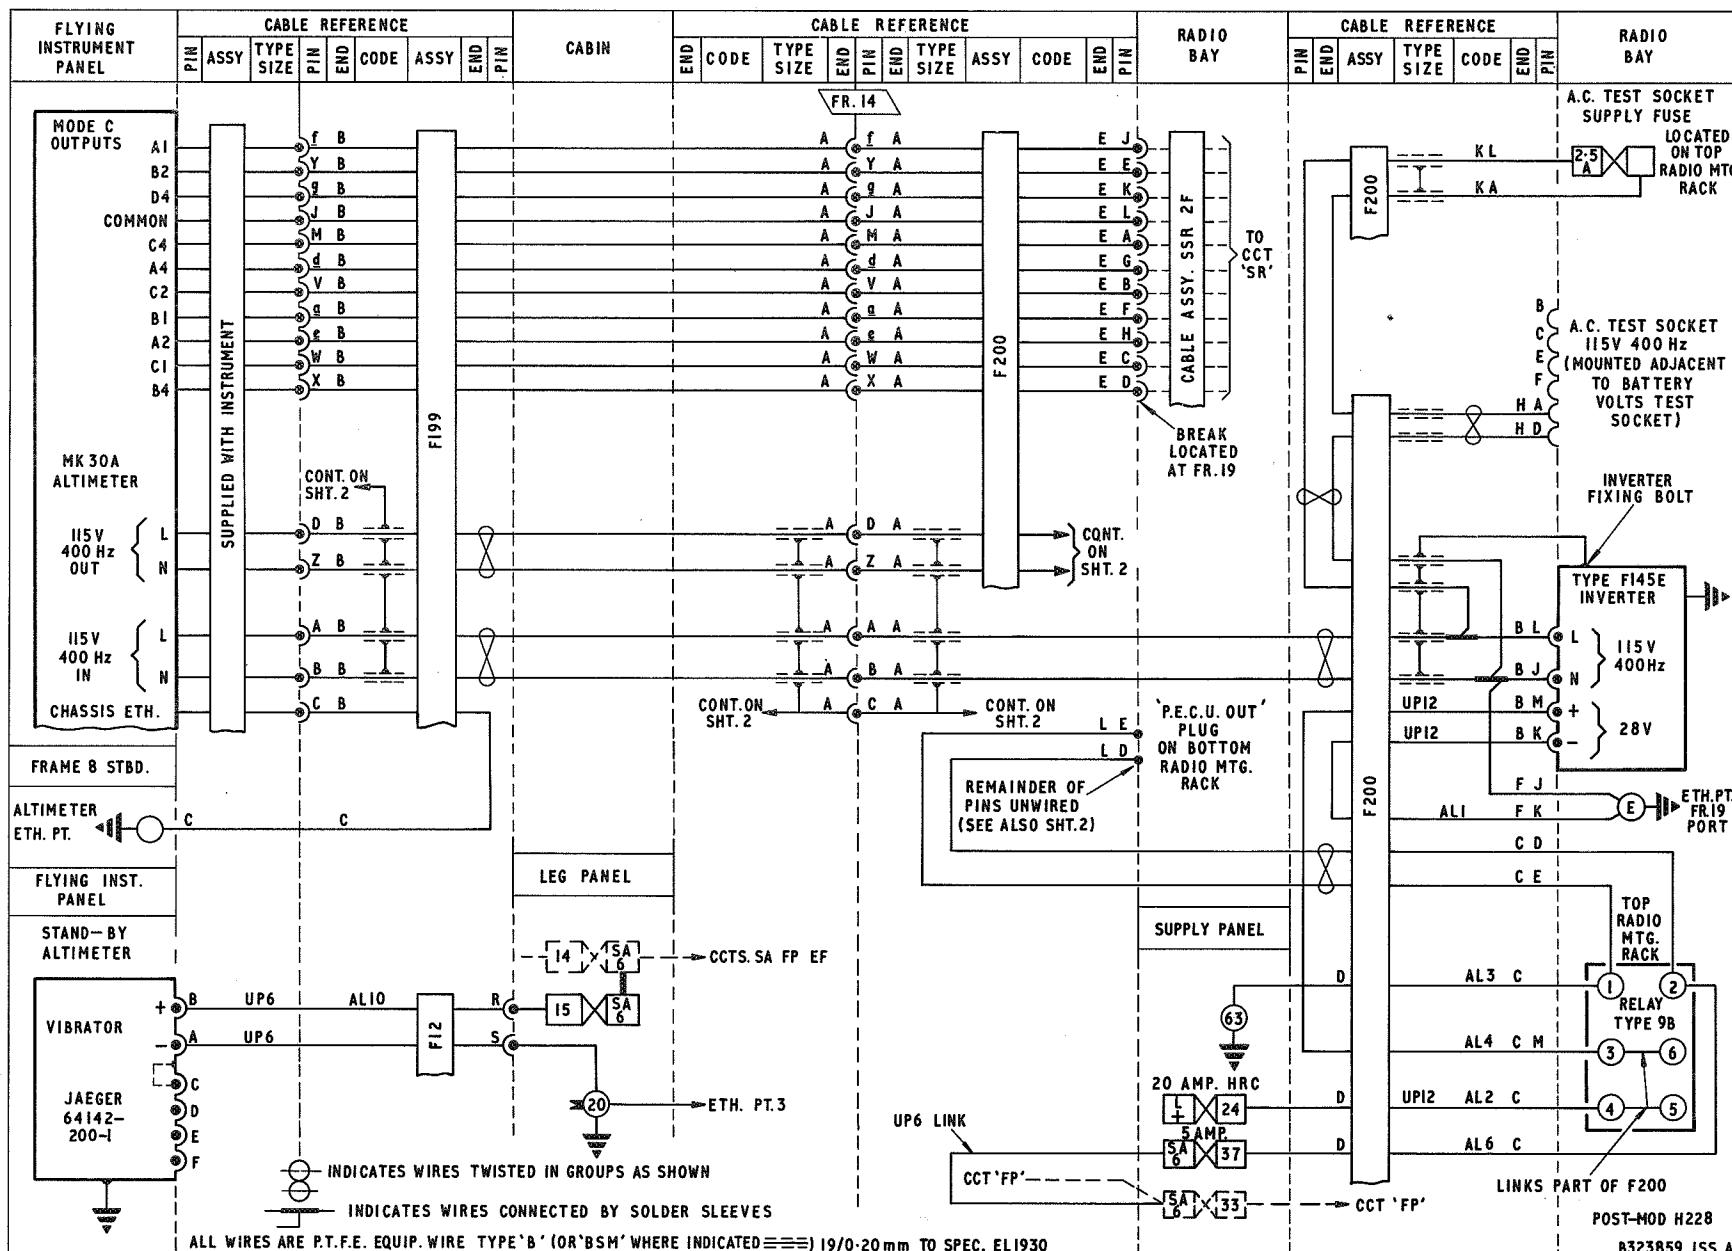

Fig.2 Height encoding and standby altimeter (routeing – Mod.1383, sheet 1)
assembly F200 end G (ref. Figs.2 and 3) is removed from PL3 on the PECU and connected to the PECU OUT plug and a protective cover is fitted to PL3.
7. The Jaeger altimeter is mounted on the pilots flying instrument panel and operates as an uncorrected air pressure operated instrument. The pressure sensitive capsule of the instrument is connected to the static line of the aircraft pitot/static installation (Group 3.A.). The altimeter has a millibar scale and a setting knob projecting from the face and is provided with an integral vibrator which operates on 28V. d.c. from a circuit provided when the engine master switch (Group C.1.) is set to ON. This circuit is protected by fuse 15 in the leg panel (ref. Fig.2).
inverter will commence to operate and supply 115V, 400Hz a.c. to the Mk.30A, which, in turn, provides supply to the PECU. The striped failure flag will immediately disappear and the altimeter will read a height related to the millibar setting. The PE flag will disappear after approximately one minute. When the system is operated with the PECU inoperative (F200 G connected to PECU OUT plug), only pins D and E of F200 G are in circuit to the altimeter Mk.30A (ref. Figs.2 and 3). Pin D obtains 28V +ve from terminal 2 of the inverter control relay to energize the coil of an internal relay in the Mk.30A to ensure the encoded output of the altimeter is in circuit to the IFF/SSR transponder. Pin E and control relay terminal 1 complete the earth return for this circuit. The PE failure flag remains in view at all times when the PECU is inoperative.